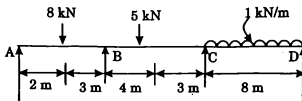

Figure 1
12. (a) A Continuous beam ABCD 20 m long is simply supported at its ends and is propped at the same level at B and C as shown in Figure 1 :
18. Plot the distribution of active pressure on the wall surface shown in Figure 1. Calculate the total thrust on the wall (active + hydrostatic) and determine its point of application. Assume $\delta = 0$ and $C_w = 0$.